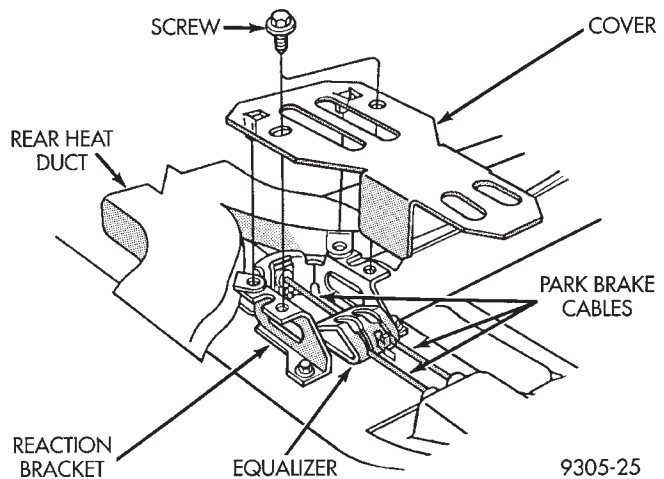

Fig. 6 Park Brake Equalizer Bracket
(8) Move front passenger side seat to its full forward position.
(9) Remove the drivers side front seat assembly from the vehicle. Refer to group 23 Body in this service manual for required procedure for front seat assembly removal.
(10) Remove rear seat lower cushion from vehicle. Refer to group 23 Body in this service manual for required lower seat cushion, removal procedure.
(11) Remove both lower rear door opening sill moldings to allow rear section of carpeting to be folded forward. This will expose the equalizer cover which is attached to the park brake cable reaction bracket (Fig. 6).
(12) Remove the park brake equalizer cover from the reaction bracket (Fig. 6).